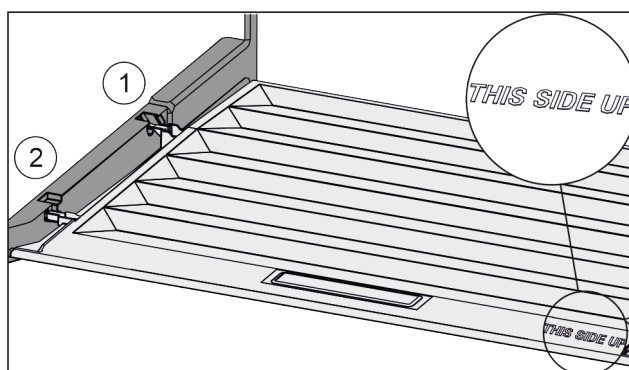

Fig. 37
- Insert the lip of the cover over the opening of the rear bracket Fig. 37 (1) and click into place Fig. 37 (2).